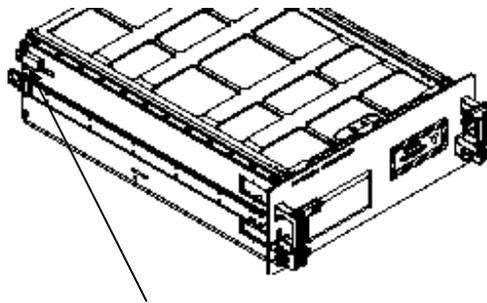

Figure 4.- Example of Safety Latch Location.
- 3.5 Locate the safety latch on the back left side of HRF Standard Stowage Drawer (labeled HRF Renal Stone Hardware) and push latch up. Refer to Figure 4.